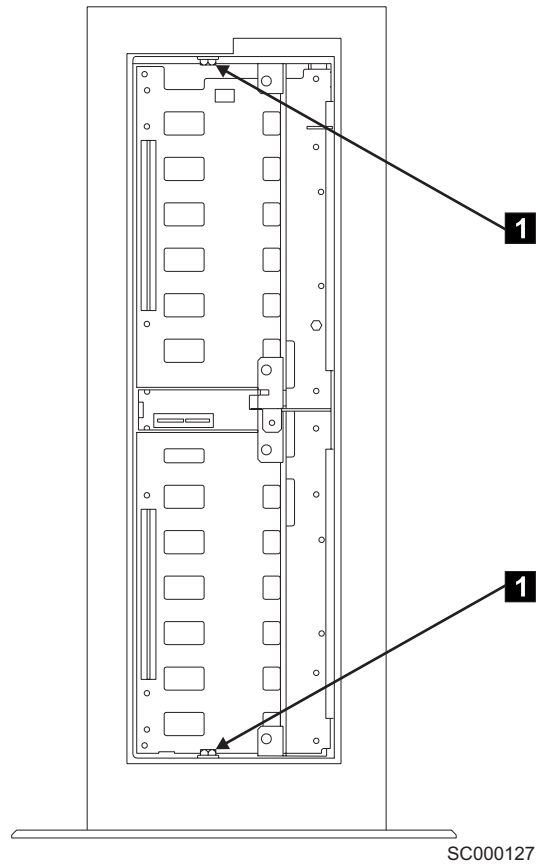

Figure 72. Removing the frame from a 2104 Model TS4 (2)
- At the back of the 2104 Model TS4, loosen the two back mounting screws **1**, as Figure 72 shows.